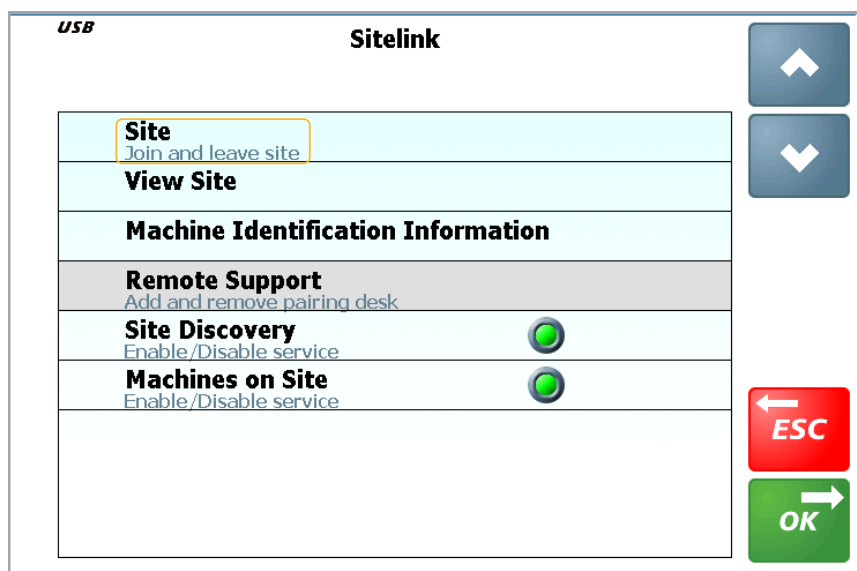

Figure 2-19: Load Weighing Display Sitelink
3. Select **Site** on the load weighing display **Sitelink** screen (Figure 2-19).